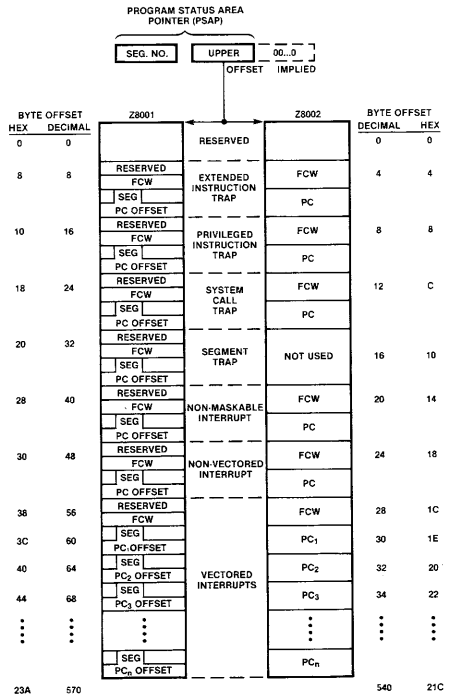

Figure 7.2. Program Status Area
7.6.3 Loading New Program Status. After saving the current program status, the new program status (PC and FCW) is automatically loaded from the Program Status Area in system program memory. The particular status words fetched from the Program Status Area are a function of the type of trap or interrupt and (for vectored interrupt) of the interrupt vector. Figure 7.2 shows the format of the Program Status Area.
The Program Status Area is addressed by a special control register, the Program Status Area Pointer, or PSAP. This pointer is one word for the nonsegmented Z8002 and two words for the segmented Z8001. As shown in Figure 7.2, the pointer contains a segment number (if applicable) and the high-order byte of a 16-bit offset address. The low-order byte is assumed to contain zeros; thus the Program Status Area must start on a 256-byte address boundary. The programmer accesses the PSAP using the Load Control Register instruction (LDCTL).